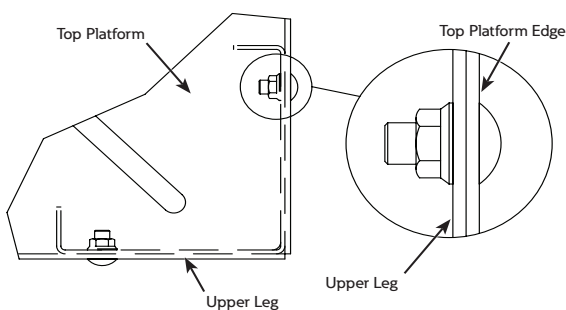

Figure 1. Assembly of upper leg to platform
2. Place an upper leg in a vertical position on the inside corner of the platform (see Figure 1).